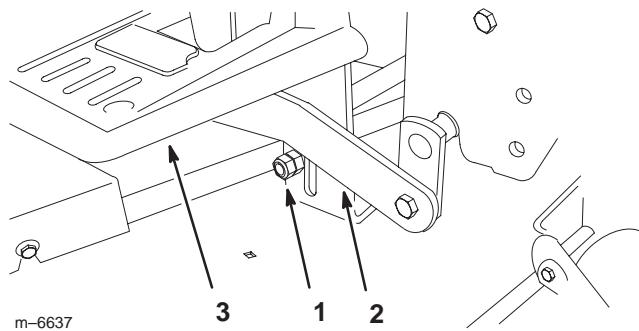
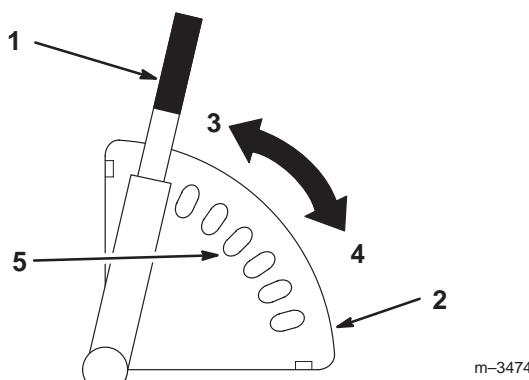

Figure 16
Figure 22
- Raise the mower to the highest height-of-cut (Fig. 22) and check if the transport level stops contact the bottom of the draft bars (Fig. 16).
- If needed, loosen and adjust the transport level stops so they just contact the bottom of the draft bars (Fig. 16).
- If one of the bumpers does not contact the footrest, adjust the appropriate transport level stop (Fig. 16).
- Pull the height-of-cut lever out to disengage it from the quadrant (Fig. 22).
- Adjust the height-of-cut to the desired level (Fig. 22).
- Release the lever inward to lock it into the quadrant (Fig. 22).